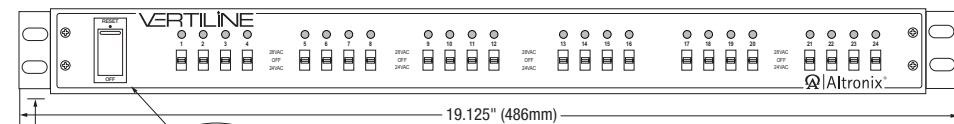

Fig. 3
5. Set illuminated master power disconnect circuit breaker to the (ON) position (*Fig. 3, pg. 6*).
8. Set illuminated master power disconnect circuit breaker to the (OFF) position (*Fig. 3, pg. 6*).
10. Upon completion of the wiring, set illuminated master power disconnect circuit breaker to the ON (RESET) position (*Fig. 3, pg. 6*).
To reset circuit breaker set power switch to the ON (RESET) position (Fig. 3, pg. 6).